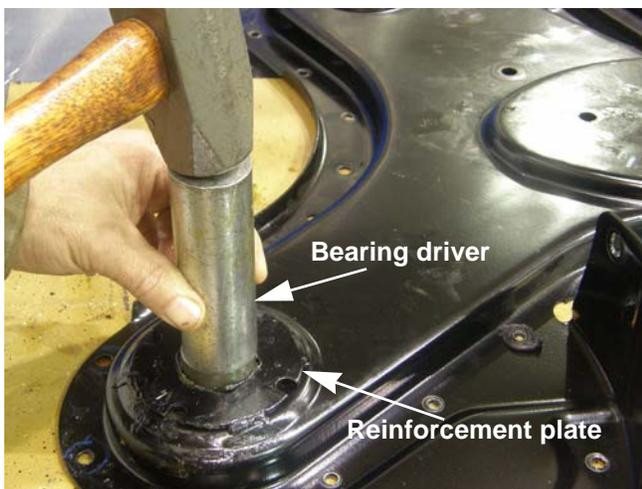

Figure 5.26
7. Inspect the bearing in the housing. If the bearing is visibly worn on the thrust surface or the bore, it can be driven out and replaced. See Figure 5.26.